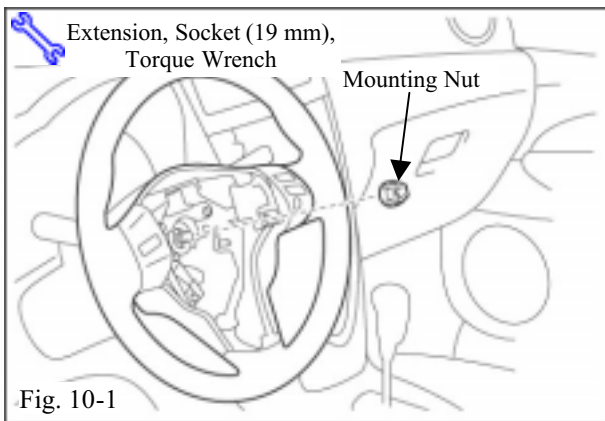

Fig. 10-1
- (a) Holding the leather bound steering wheel assembly horizontally in T form, assemble the steering wheel assembly onto the steering column shaft. (Fig. 10-1)